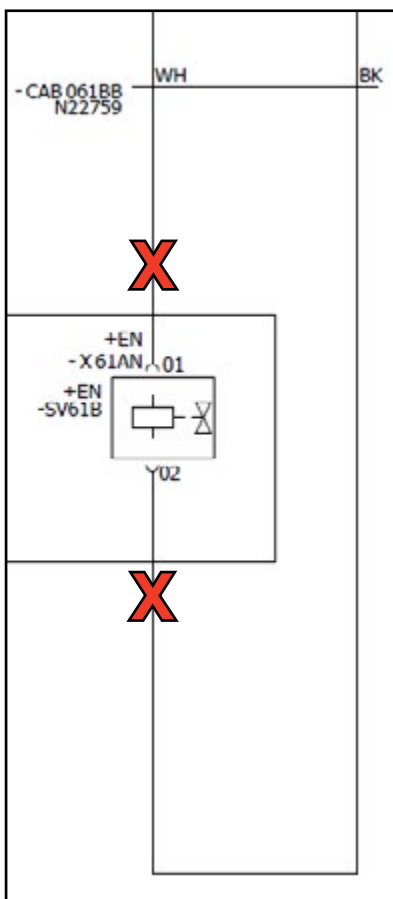

Figure 3 - Wires to be Cut and Insulated on the +EN-X61AN Connector
- 1.6. Disconnect electrical connector +EN-X61AN and cut the two wires from the CAB061BB cable close to the connector shell. See Figure 3. Discard the connector.
- 1.7. Cut two lengths of N27548-18 heat shrink tubing and install a piece on both cut wires to insulate them properly. See Figures 3 and 4.